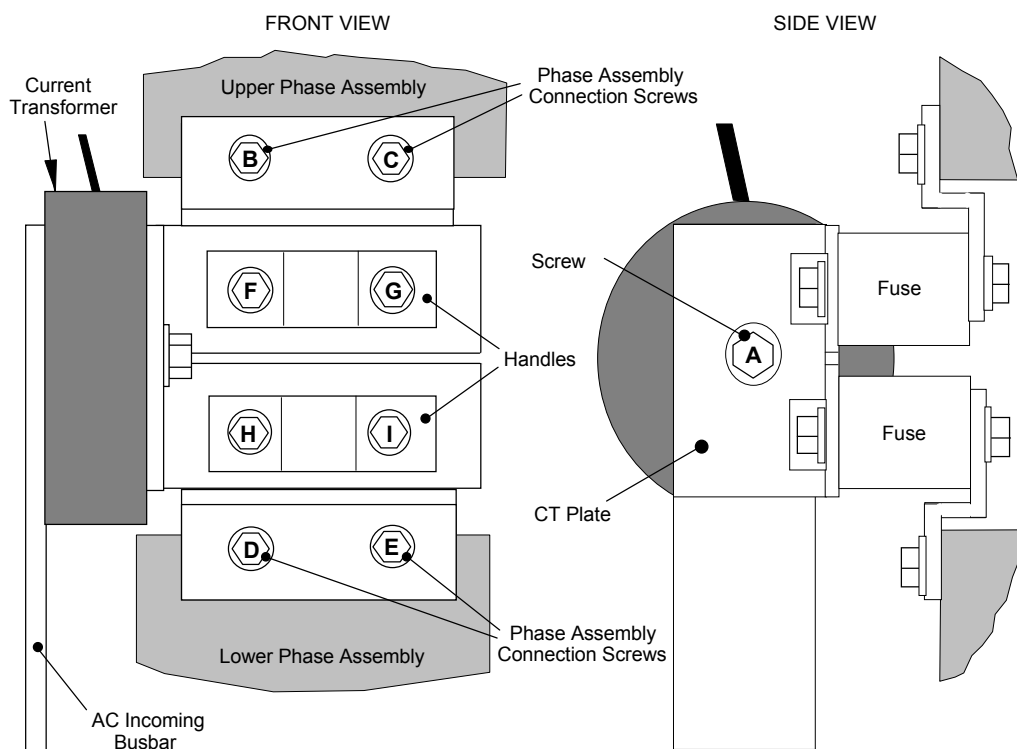

Figure 8-1 590+ (Frame H) Fuse Replacement Diagram
1. Referring to Figure 8-1 (590+) or Figure 8-2 (591+), remove the M12 screw (A). Undo the four screws (B, C, D, E) which allows the CT plate and fuse assembly to be removed.